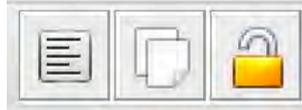

Fig. 22 – Button to align on a split, disaligne with sx/dx and unlock button
- **Disaligne with sx/dx:** it is also possible to rapidly move the curves with this function that can be activated either from the icon bar (pages icon, shown in the center of Figure 22) or from the graph menu. This function allows you to shift the selected curves (highlighted in green) by simply left-clicking the starting point and then right-clicking the end point. Finally, it is possible to align all the curves with respect to one of their splits by simply selecting the reference split and pressing the *align on a split* button on the icon bar.